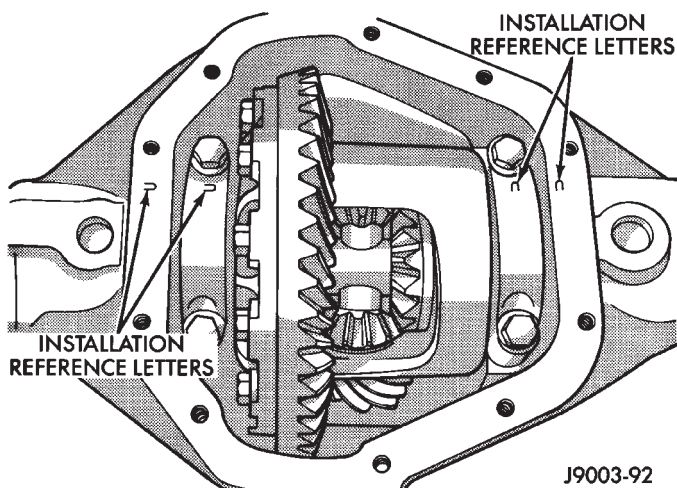

Fig. 37 Differential Bearing Cap Reference Letters
(5) Install differential case in the housing. Ensure that the differential bearing cups remain in position on the differential bearings and that the preload shims remain between the face of the bearing cup and the housing. Also verify that the pick-up opening of the Vari-lok™ plenum is at the bottom of the housing. Tap the differential case to ensure the bearings cups and shims are fully seated in the housing.
(6) Install the bearing caps at their original locations (Fig. 37).